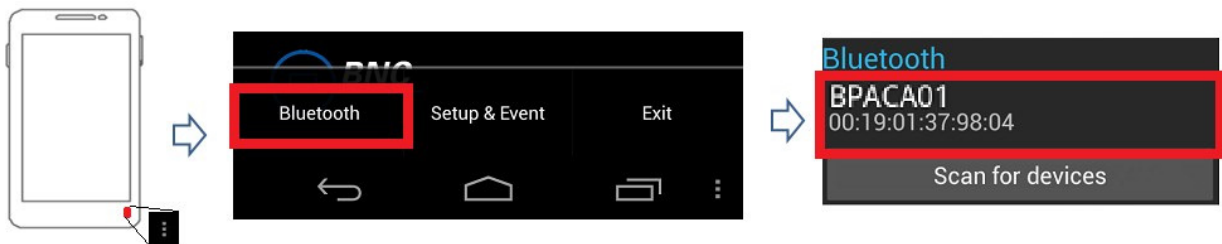

Figure 4.7. Bluetooth menu and Paired Devices list example
- a. Touch the menu button  in the bottom right corner of the screen (Figure 4.7).
- c. The Paired Devices list will appear (Figure 4.7). Select the desired device from the list.